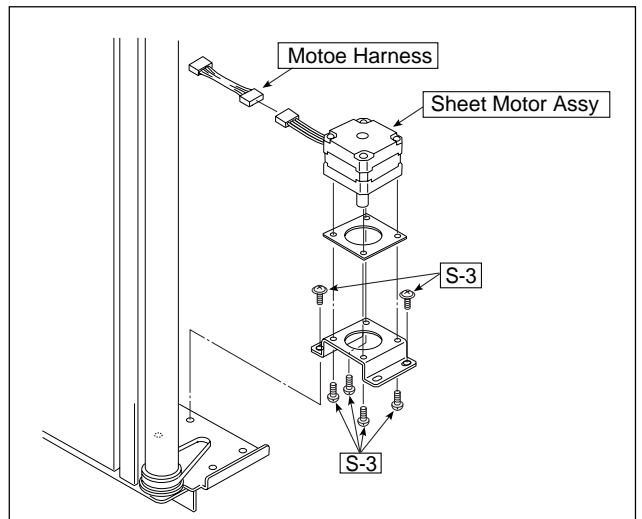

Fig. 11
8) Remove the Sheet Motor Assy. (See Fig. 11.)
1. Remove the "S-3" screws shown in Fig. 11.